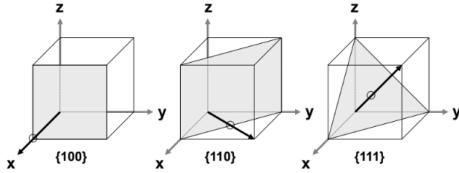

Figure 1.4: Common cubic crystal planes illustrated are  $\{100\}$ ,  $\{110\}$ , and  $\{111\}$ .
- **(100) Surface Orientation (for Silicon):**
- **(111) Surface Orientation (for Silicon):**
The angle between the (100) and (111) surfaces in silicon is  $54.74^\circ$ . (Figure 1.4)